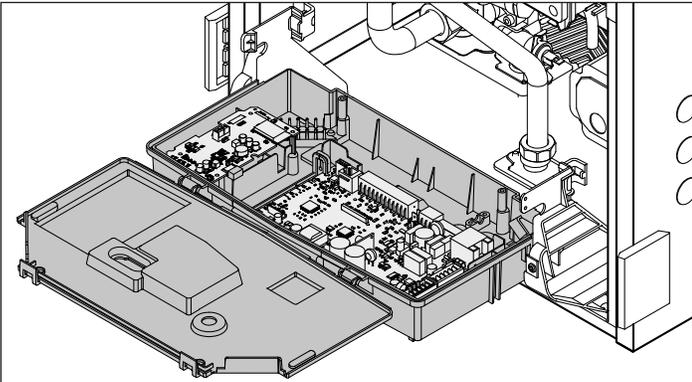

Figure 51 - Access to Low Voltage Wiring Connections
6. Open the control panel cover to have access to the main PCB. See Figure 51.